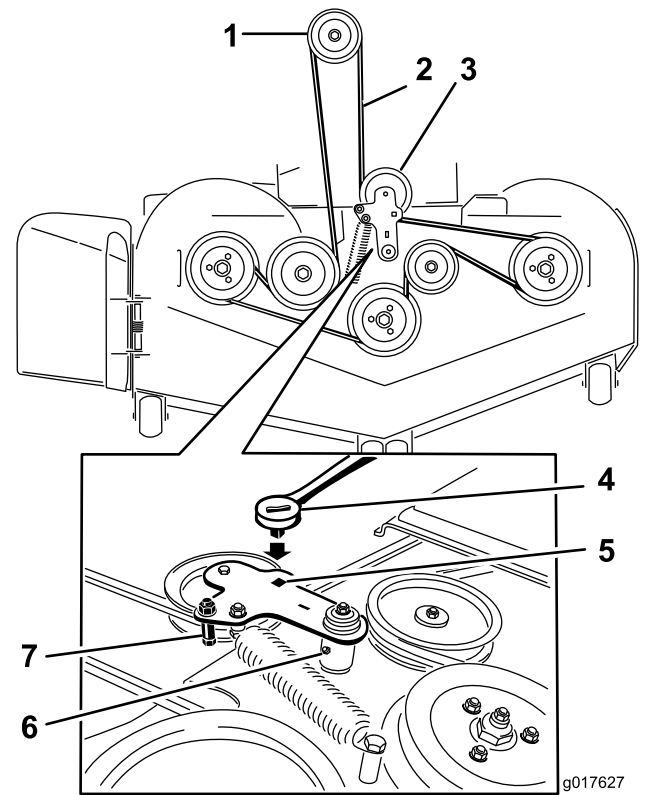

Figure 83
5. Lift up the floor pan and insert a ratchet into the square hole in the deck idler (Figure 83).
6. Rotate the deck idler clockwise and remove the mower belt (Figure 83).